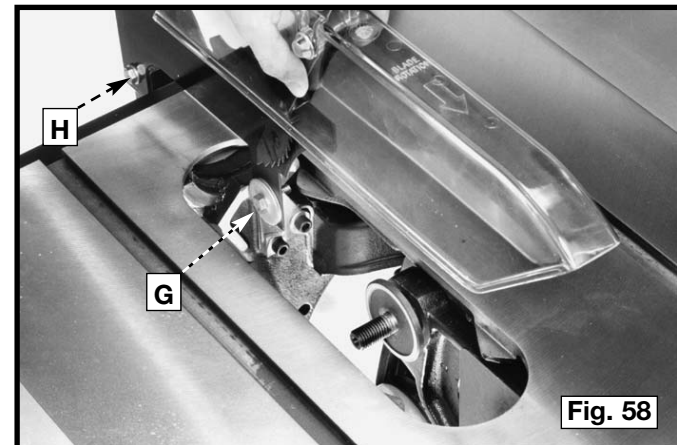
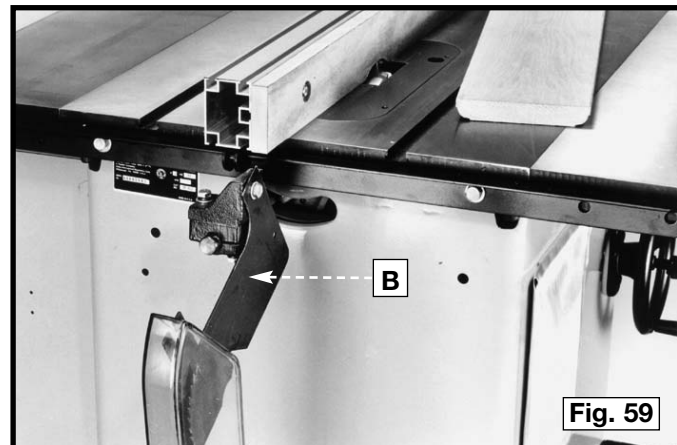
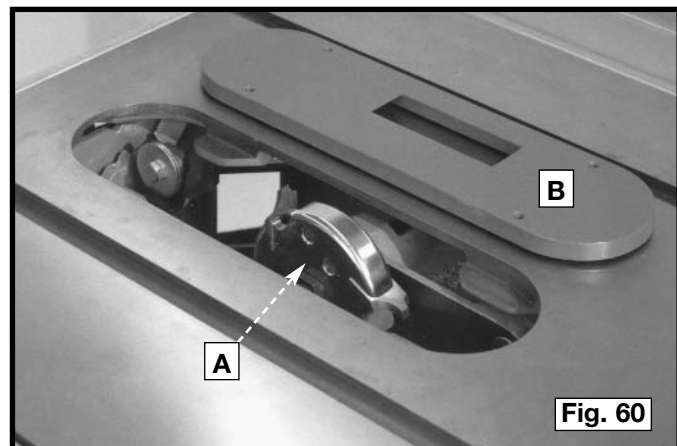

Fig. 58
Fig. 59
Fig. 60
**⚠ CAUTION** For certain cutting operations (dadoing and moulding) where the workpiece is not cut completely through, the blade guard and splitter assembly cannot be used. Loosen screws (G) and (H) Fig. 58. Lift up and swing blade guard and splitter assembly (W) Fig. 59 to the rear of the saw and retighten (H).
1. A moulding cutterhead (A) Fig. 60 is shown assembled to the saw arbor.
**⚠ WARNING** The accessory moulding cutterhead table insert (B) must be used in place of the standard table insert.
2. When using the moulding cutterhead, add wood-facing (C) to the face of the rip fence (Fig. 59). The wood-facing is attached to the fence with wood screws through holes which must be drilled in the fence. Stock that is 3/4" inch thick is suitable for most work, although an occasional job may require 1 inch facing.